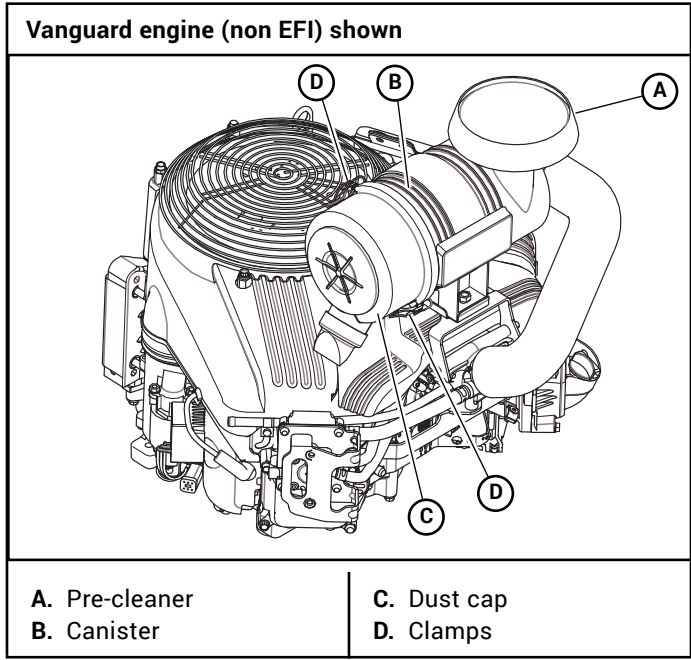
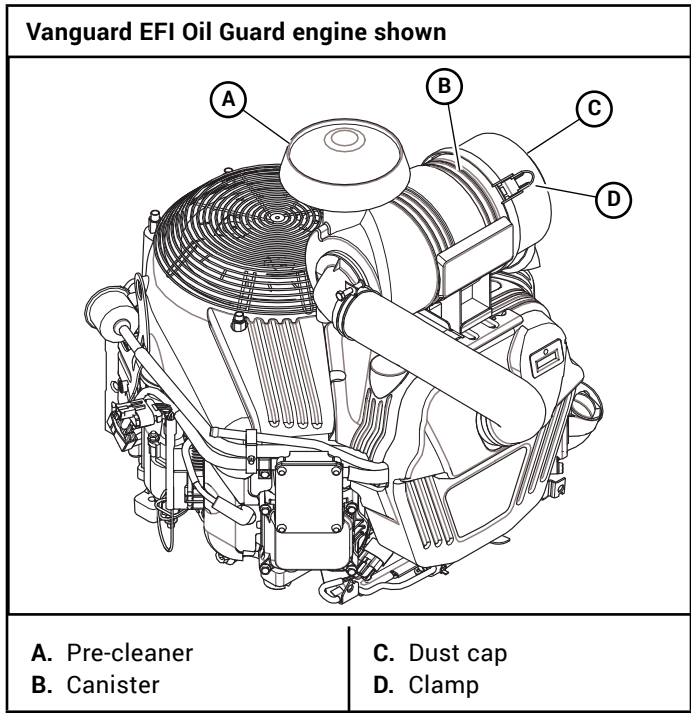

Figure 4-14
Figure 4-15
A specially designed dry filter is standard equipment on these mowers and supplies clean combustion air to the engine. Figure 4-14 and Figure 4-15
3. Reinstall the dust cap. Make sure it seals all the way around the air cleaner canister, then tighten the clamps. Figure 4-14 and Figure 4-15